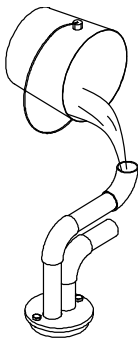

Figure 11
7. While holding the pipes SECURELY, fill them with water to make sure that the connections and check valve do not leak (See Figure 11). The pipes should hold water. If they leak, remove the pipes and find the leak. Remake the leaking joint with teflon tape or retighten the clamp. Repeat the installation and the fill-check until the pipes do not leak.